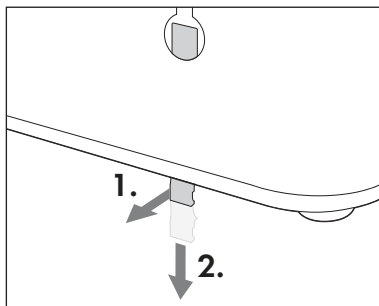

Fig. 1
3. On the back side of the appliance, the right hanger **6** has a locking pin **7** to prevent the appliance from coming free of the screws **8**. Press the locking pin **7** back somewhat until you hear a click. Then pull the locking pin **7** down slightly out of the hanger **6** (see Fig. 1).